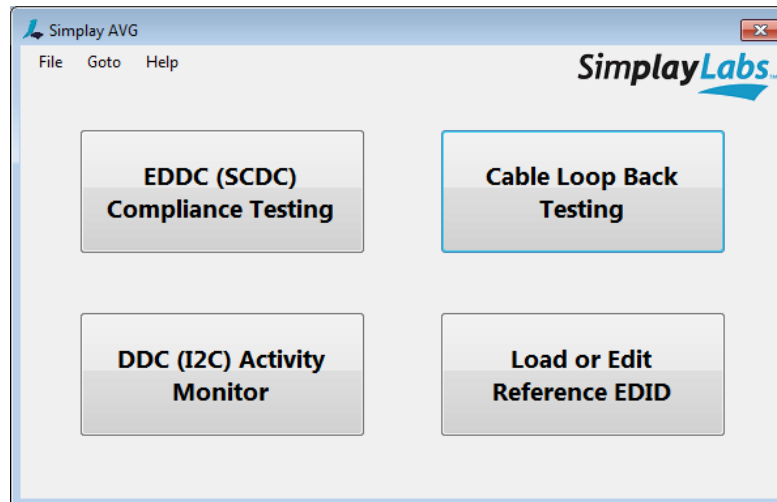
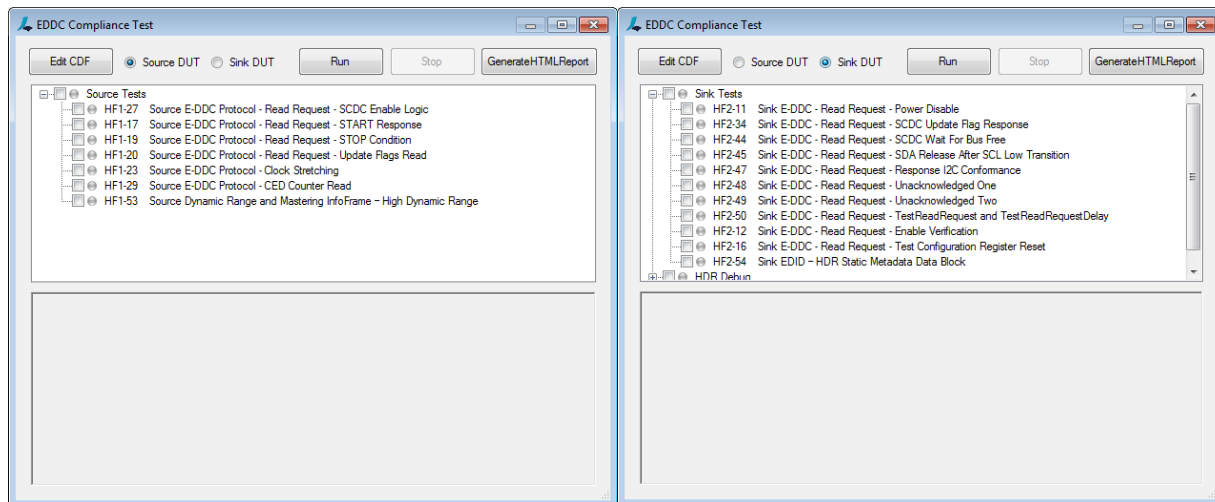
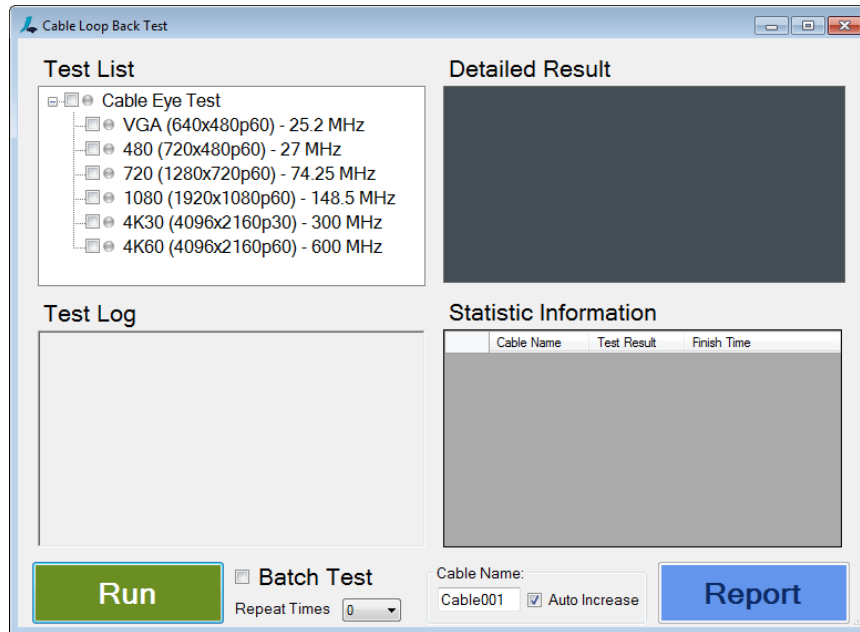

Figure 3.16. Options Enabled in AVG Software Main Window
Figure 4.1. EDDC (SCDC) Compliance Test Windows
Figure 4.10. Cable Loop-back Test Windows
9. After loading the license file, from the AVG software main window, the EDDC (SCDC) Compliance Testing, the DDC (I2C) Activity Monitor, and the Load or Edit Reference EDID options are enabled, as shown in Figure 3.16. The connection between the SL-881 and your test computer is completed. You can start using the SL-881 AVG software.
1. From the AVG software main window of your test computer (Figure 3.16), click EDDC (SCDC) Compliance Testing. The EDDC Compliance Test window appears (Figure 4.1).
4. After editing CDF variables, choose the items from the Source Tests area or the Sink Tests area (Figure 4.1). Click Run to run the selected items.
10. When the EDDC compliance test completes, you can get a report file in HTML format by clicking the Report button (Figure 4.1). Following is a sample report (Figure 4.9).
From the AVG software main window of your test computer (Figure 3.16), click Cable Loop-back Testing. The Cable Loop-back Test window appears (Figure 4.10).
If you want to run the test in single mode, be sure NOT to check the Batch Test checkbox (bottom area in Figure 4.10).
- When the Cable Loop-back test completes, you can get a formatted report file by clicking the Report button (Figure 4.10). Following is a sample report (Figure 4.14).
- Click Run (Figure 4.10).